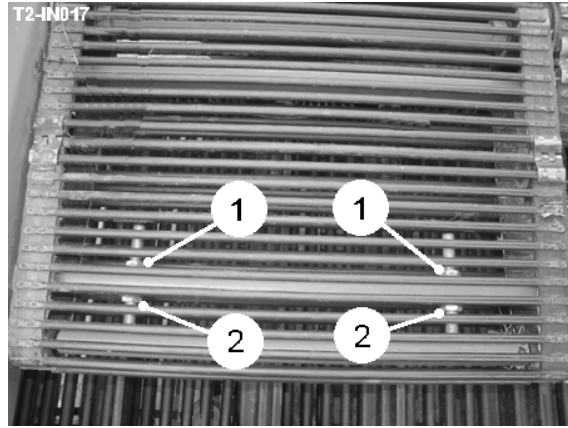

Fig 18
The spreader webs are tensioned using the locknuts (item 1 & 2, fig 18). Ensure both sides of the web are adjusted evenly.